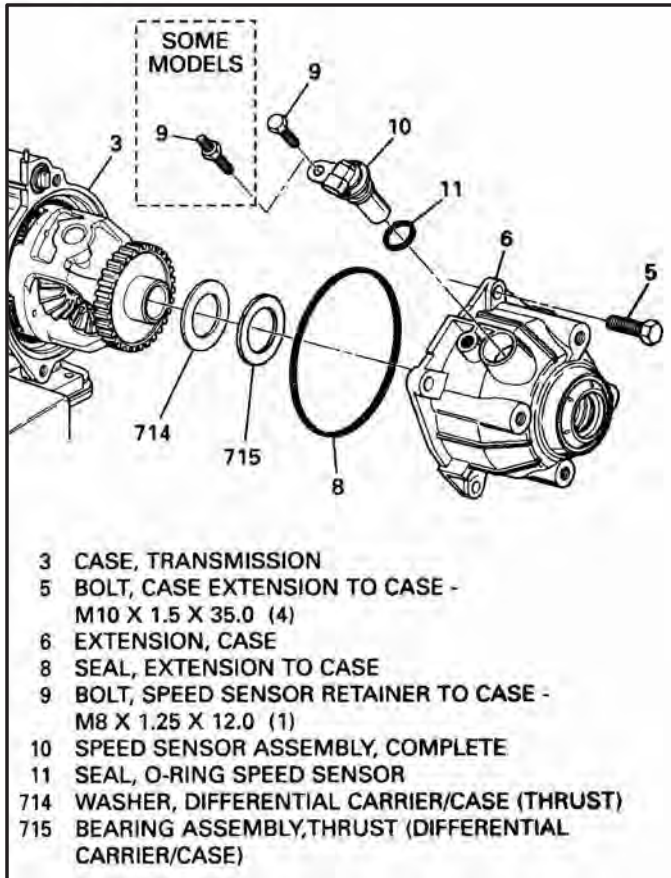

Figure 53
25. Rotate transaxle to position shown in Figure 53 and remove the four extension housing bolts and remove extension housing.
26. Remove and discard the extension housing to case "O" ring seal (See Figure 53)